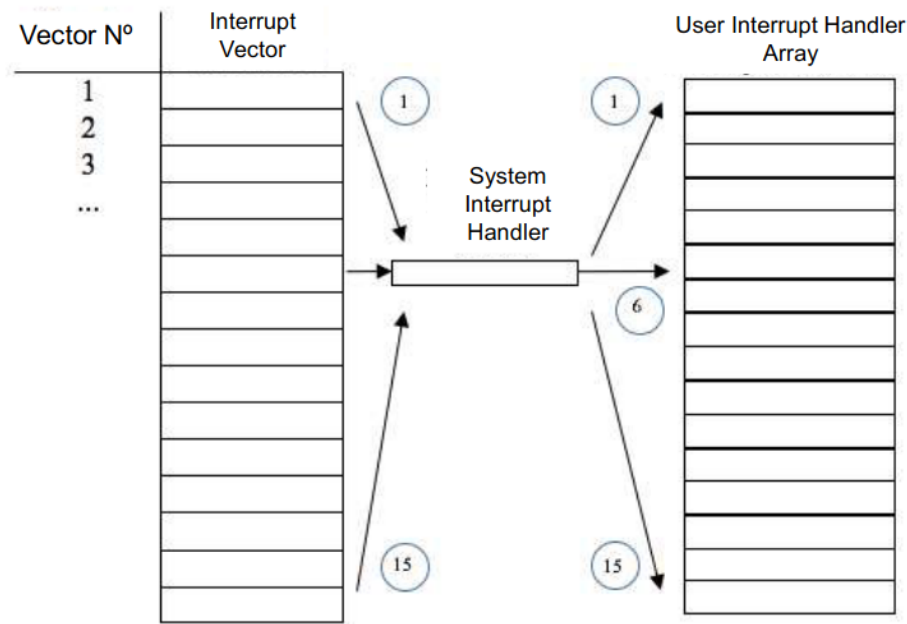

Figure 3. Configuration using a System Interrupt Handler (common for all interrupts) and a User Interrupt Handler.
- `leon3_install_hwirq_handler`. Function that installs a user routine for handling an external interrupt following the structure of Figure 3. The prototype of the function is shown below, where `hwirq_number` is the vector number and `handler` is a pointer to the routine to be installed: